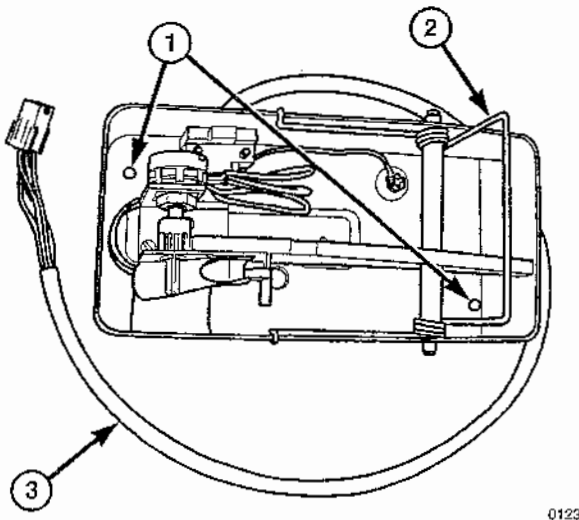

Figure 11 - Pedal Housing, Cover Removed
3. Locate silver pushpins (spring loaded) on foot pedal cover sides (see figure 11 - item 1)